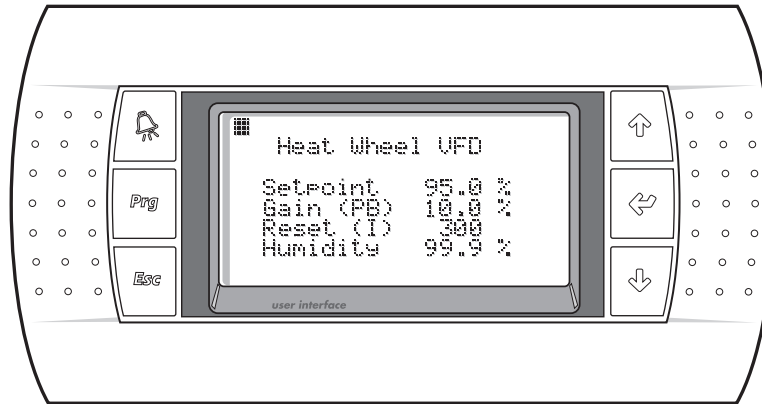

Figure 36
2.3.2.5 - Heat Wheel Control Setpoints (Figure 36)